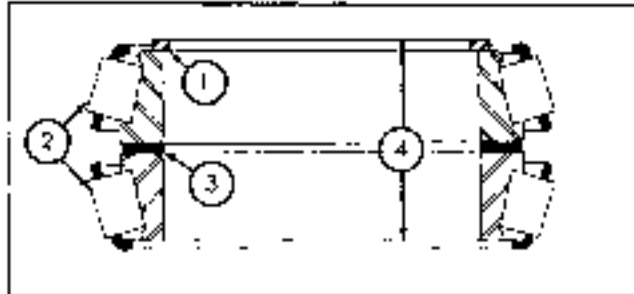

Fig. 1-31. Bearing cones
p. If reading is less than .001, remove shims (12, 13, or 14) from under cap (15), and add shims of the same thickness under cap (15).
q. Reinstall housing (92) and shims.
r. Install seal (36) in bearing housing (97), with lipped edge toward case. Place bearing housing (97) on axle housing. Install caps and cones (40 and 41) and secure with retainer ring (42).
IMPORTANT: Cones (40), shim (43), and retainer (42) must be considered an assembly with dimension shown in Fig. 1-31. Select shim (43) of the proper thickness to obtain the given dimension.